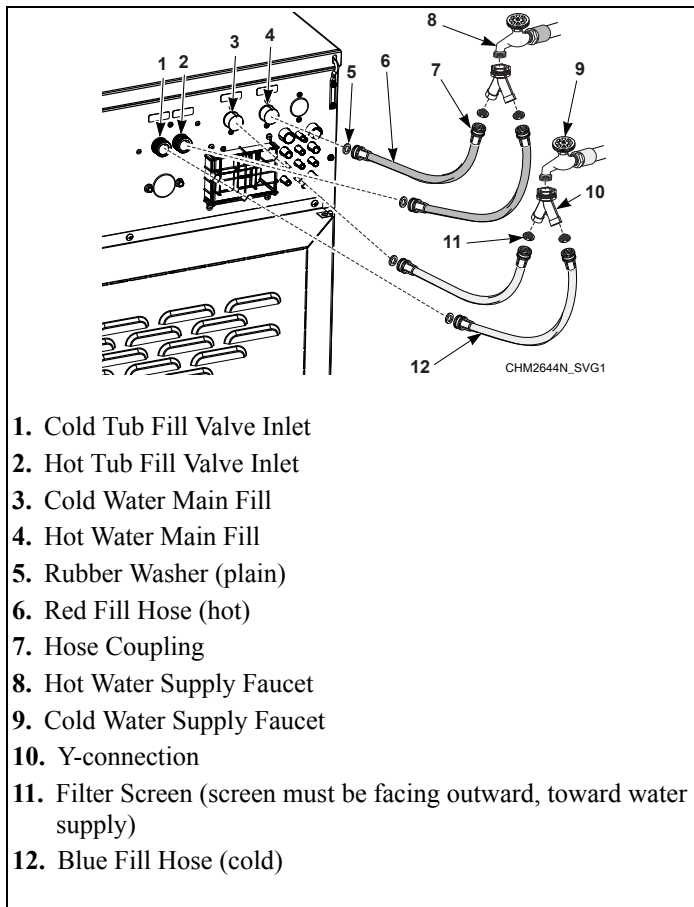

Figure 30
1. Before installing hoses, flush the building's water system at the machine connection valves for at least two (2) minutes.
2. Remove the four (4) plain rubber washers and four (4) filter screens from the accessories bag supplied with the machine.
3. Install one (1) plain rubber washer onto one end and one (1) filter screen into the other end of each fill hose. The screens must be facing outward toward the water supply. Refer to *Figure 30*.
4. Screw one (1) of the Y-connectors (supplied with the machine) into the cold water supply faucet and one (1) into the hot water supply faucet.
5. Screw hose couplings with the filter screens onto the water supply faucets until they are finger-tight. Use the two (2) red color-coded hose for the hot water connection and the two (2) blue color-coded hose for the cold water connection.
7. Screw the coupling with the plain rubber washer of one (1) of the red color-coded hoses (attached to the hot water connection) onto the main fill valve inlet (marked with a red label). Screw the coupling with the plain rubber washer of the other red color-coded hose onto the tub fill valve inlet (marked with a red label). Tighten to finger-tight. Refer to *Figure 30*.
8. Screw the coupling with the plain rubber washer of one (1) of the blue color-coded hoses (attached to the cold water connection) onto the main fill valve inlet (marked with a blue label). Screw the coupling with the plain rubber washer of the other blue color-coded hose onto the tub fill valve inlet (marked with a blue label). Tighten to finger-tight. Refer to *Figure 30*.